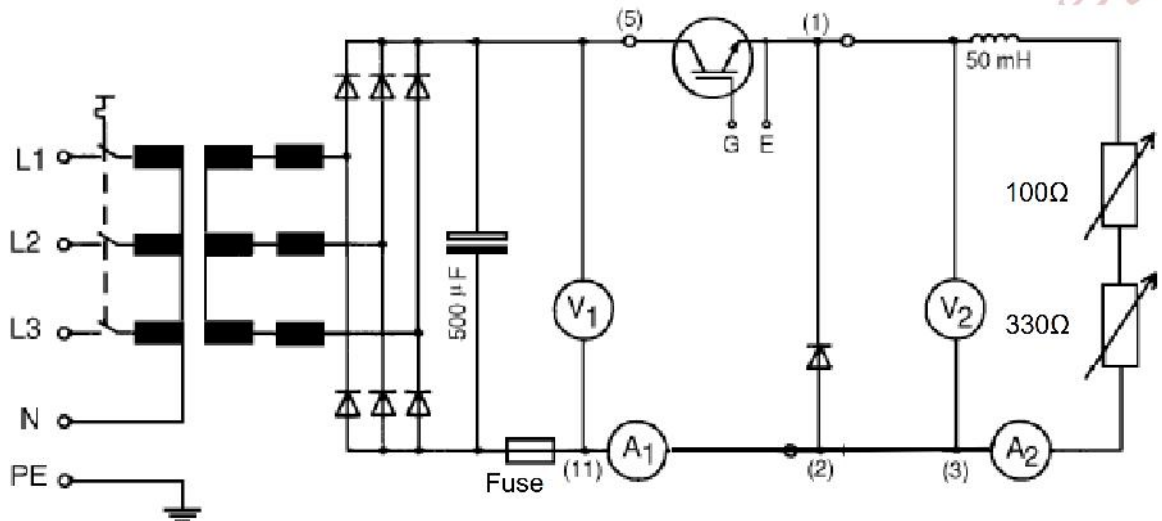

Figure 5.8 The equivalent power circuit of a Step-down converter implementing an IGBT-PWM control
- 1) Modify and connect the equipment to match the power circuit as shown in the Figure 5.8. Set the Transformers' secondaries for full voltage; produce a **phase-to-neutral voltage of 90V**. Ensure that the RCD circuits for the IGBT and diode are connected by means of the bridging plug!
For the circuit connected as was shown in Figure 5.8, and for the Potentiometer Setpoint is at 5V and a switching frequency set to 1kHz, examine the effect of various parameters on the output voltage and current ripple.